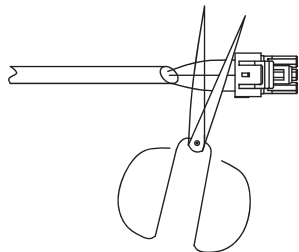

Fig. 25 — Shearing Outdoor Connector
1. Cut the connector on the outdoor unit side as shown in Fig. 25 below.